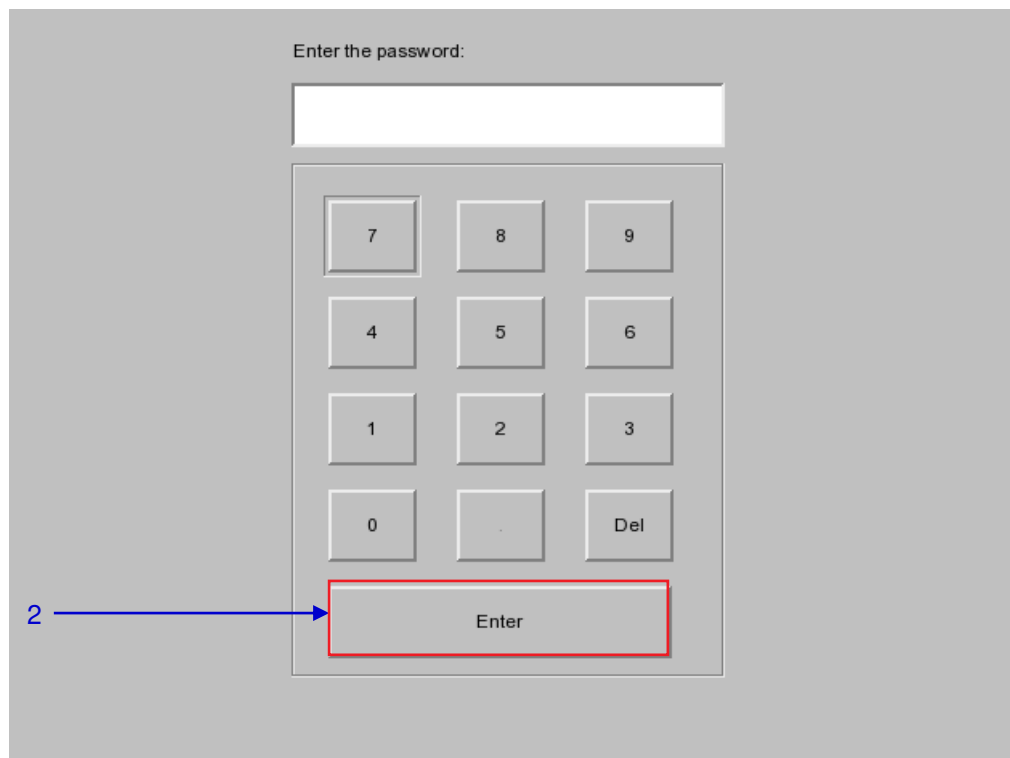

Figure 114: Diagnostics/Maintenance [Software Upgrade]
- 1 From the **Software Upgrade** button in the Admin Panel you can run any GDC issued upgrade files, once you press the button you will be prompted for the upgrade password as seen in **Figure 114**.